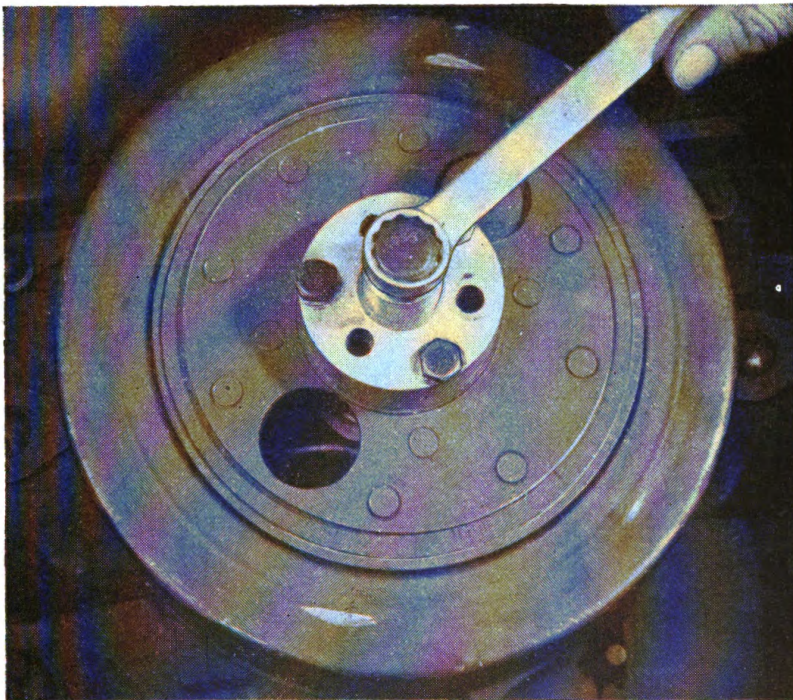

Figure 55. To remove flywheel, use flywheel puller and socket wrench.
(1) Remove motor cover. This is held to motor by four nuts and lockwashers, two on each side of cover.
(2) Remove carrying handles at ends of cylinders. Four nuts hold each handle.
(3) Remove starter plate on flywheel.
(4) Remove flywheel nut. Tap wrench with hammer to loosen flywheel nut if necessary.
(5) Use flywheel puller to remove flywheel. See figure 55. Do not tap off the flywheel as this may injure the ball bearings in the crankcase.